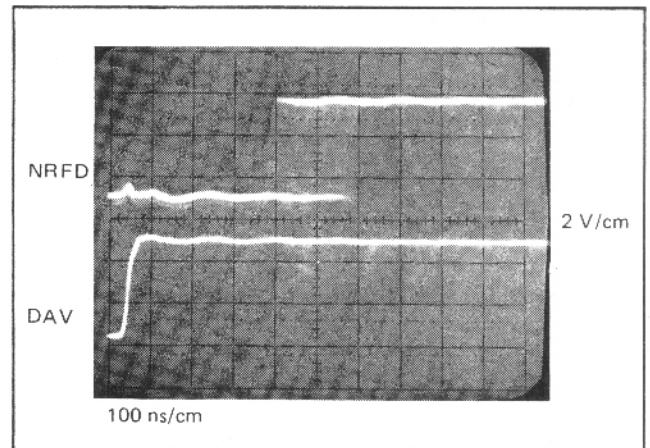

Figure 4-7. Listen Ready Time Test.
c. The Oscilloscope display should be similar to that shown in Figure 4-7. The time between the positive going edge of the DAV signal and the positive going edge of the NRFD signal must be less than 750 nanoseconds.